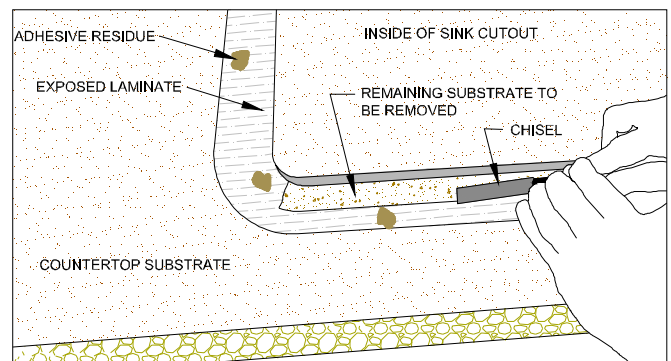

Figure 2B
- Keep chisel flat, beveled side up, so as not to damage laminate. (FIG. 2B)